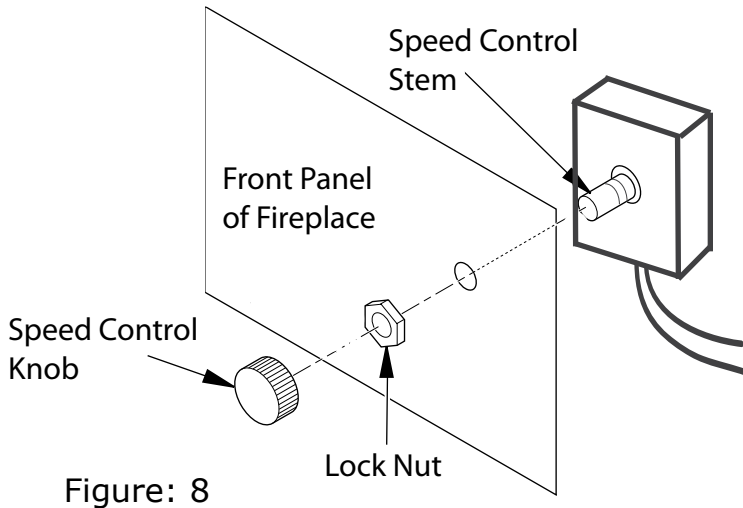

Figure: 8
Step 6: Remove Lock Nut from speed control stem and mount speed control from behind front panel of fireplace. (Figure: 8)